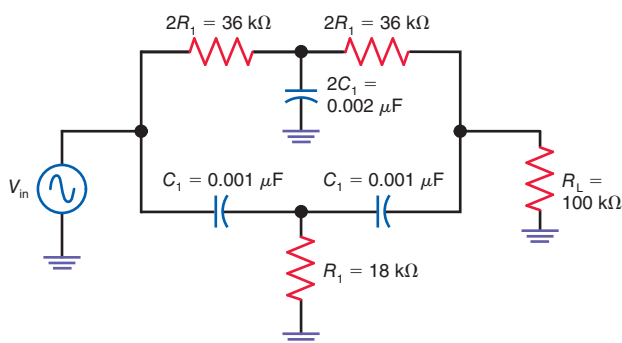

Figure 23-29
- 23.16** Calculate the notch frequency, f_N , in Fig. 23-29.